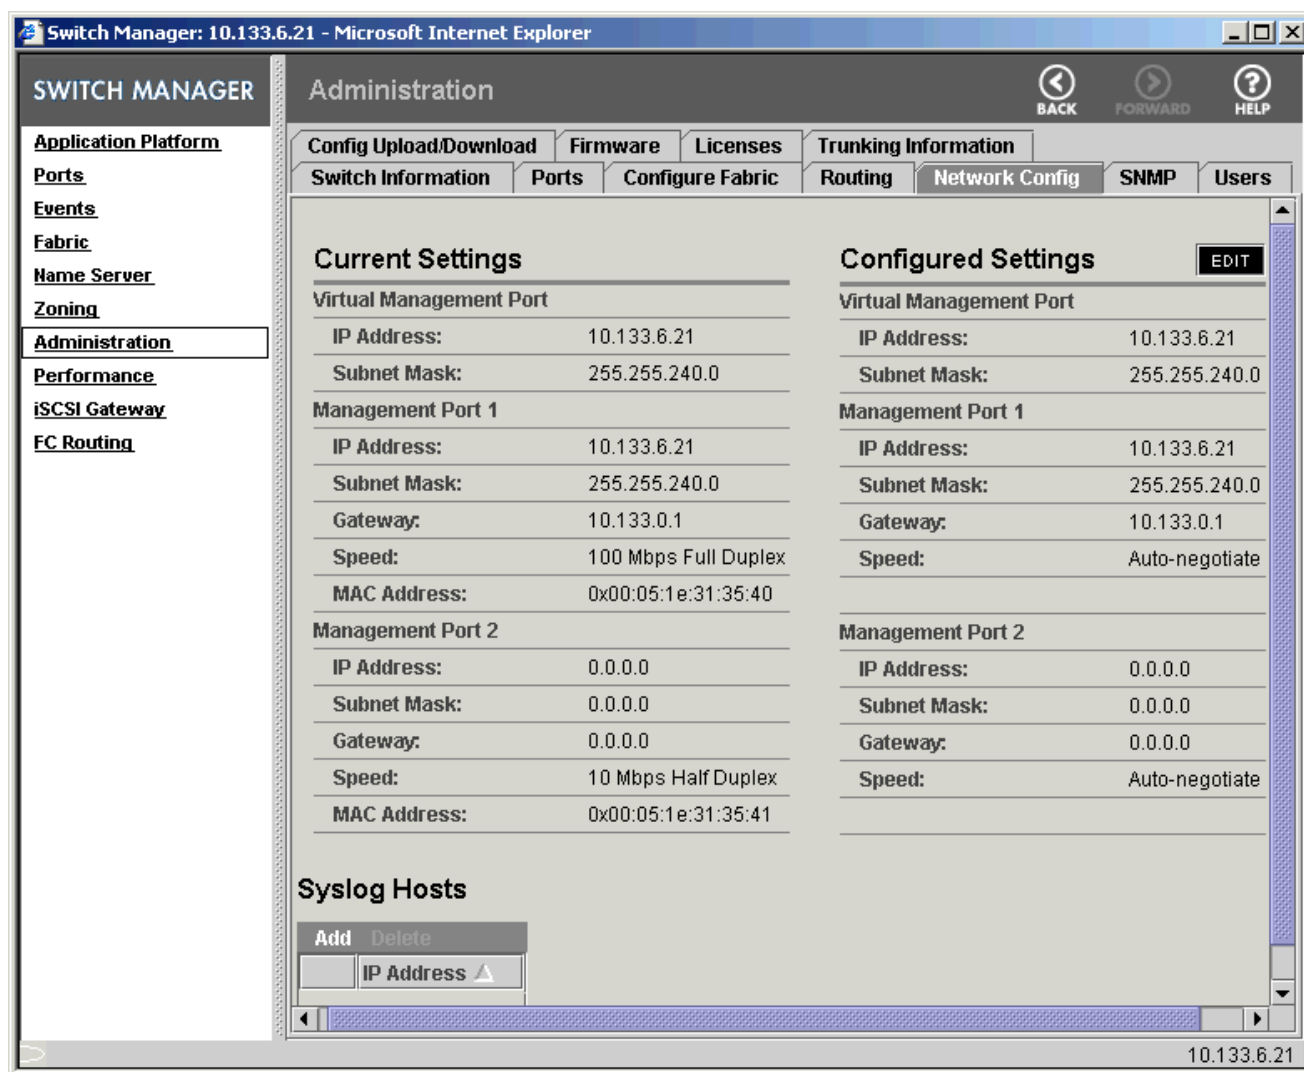

Figure 12 Administration page with the Network Config tab selected
3. Click the **Network Config** tab (see Figure 12).